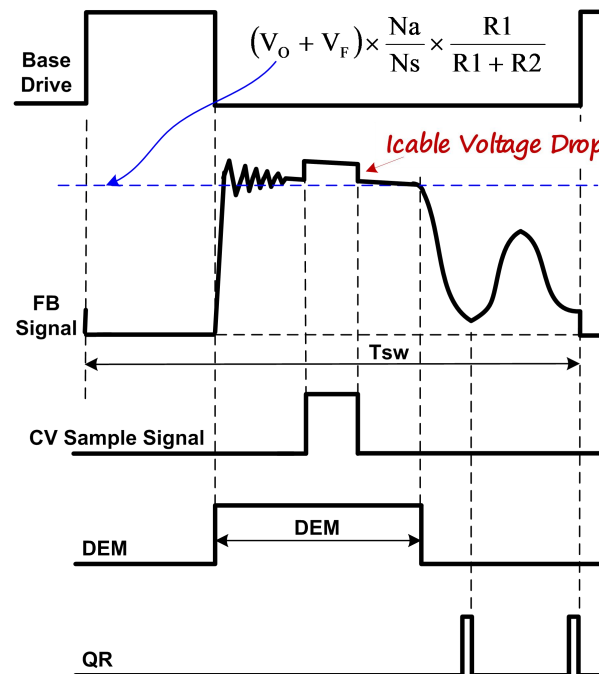

Fig.2
In Primary Side Regulation (PSR) control, the output voltage is sensed on the auxiliary winding during the transfer of transformer energy to the secondary. Fig.2 illustrates the timing waveform of CV sampling signal, demagnetization signal (DEM) and quasi-resonant (QR) trigger signal in DP1803. When the CV sampling process is over, the internal sample/hold (S&H) circuit captures the error signal and amplifies it through the internal Error Amplifier (EA). The output of EA is sent to the Quasi Resonant PSR CV Modulator (QR-CVM) for CV regulation. A valley is selected to trigger new PWM cycle by the output of the QR-CVM block, which is determined by the load. The internal reference voltage for EA is trimmed to 1.3V with high accuracy.
During the CV sampling process, an internal variable current source is flowing to FB pin for Cable Drop Compensation (CDC). Thus, there is a step at FB pin in the transformer demagnetization process, as shown in Fig.2. Fig.2 also illustrates the equation for